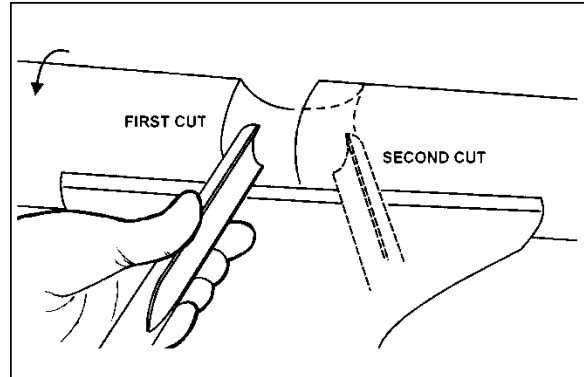

Figure 18
- With the flute facing the opposite direction, repeat step 1 for other side of cove. Stop at the bottom of the cut; see Figure 18.